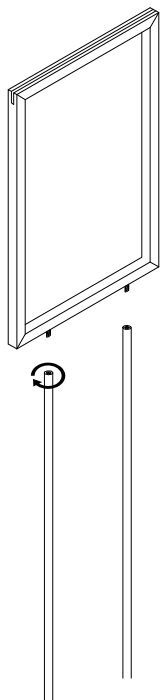

Figure 1
1. Twist two legs into frame. (See Figure 1)